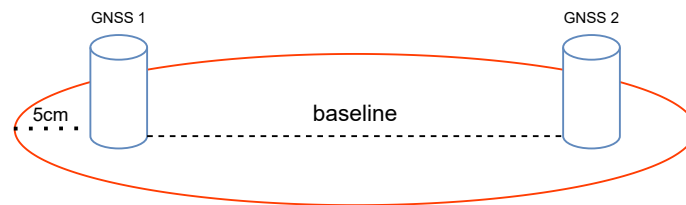

Figure 4.3.: GNSS antenna placement ellipse
- GNSS antenna placement with respect to the Vision-RTK 2 sensor can have various impacts on performance. We recommend always placing the sensor at any point between the two GNSS antennas to avoid any lever arms effects or within an ellipse, as shown in Figure 4.3. Ideally, the sensor should be placed on the line between the two antennas. However, due to design considerations or camera visibility this might not be an option. Therefore, mounting the VRTK-2 on an ellipse that spreads up to 5 cm from the antennas is acceptable. Hereby, the antennas can be placed at a higher level to accommodate mounting the VRTK-2 within the ellipse. The 5 cm distance is an approximate range between the antenna and the origin of the VRTK-2's reference frame.